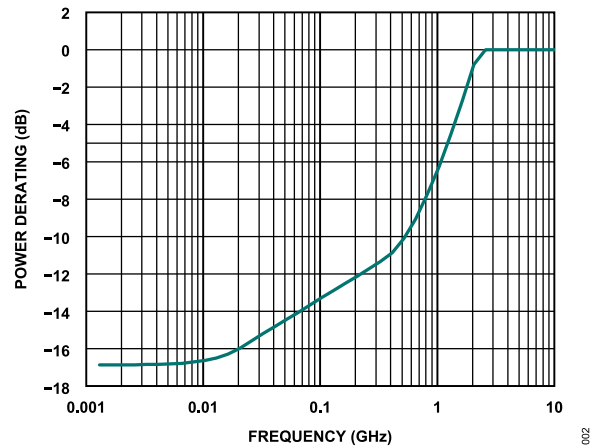

Figure 2. Power Derating vs. Frequency, Low Frequency Detail, T_{CASE} = 85°C
² For power derating over frequency, see Figure 2. Power derating is applicable for all ATTIN and ATTOUT power specifications.
- For power derating vs. frequency, see Figure 2.